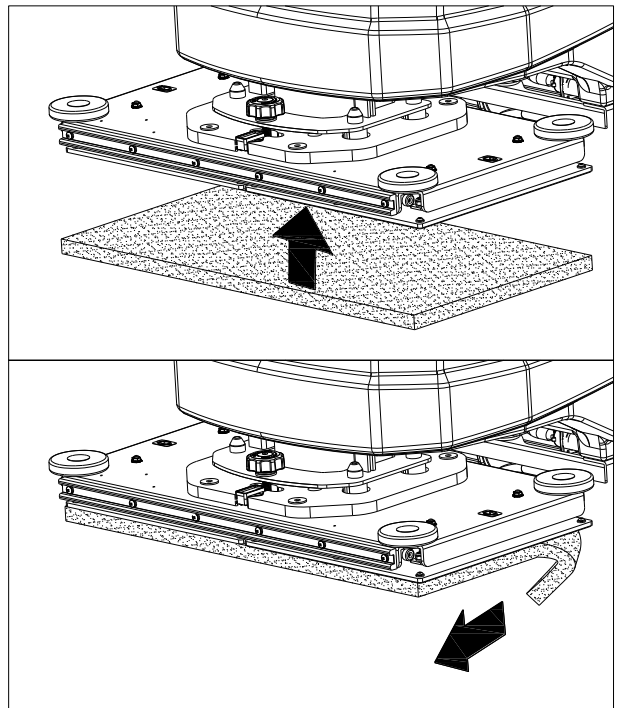

Figure 10
2. Use the manual method to install or remove the pad as (Figure 10)